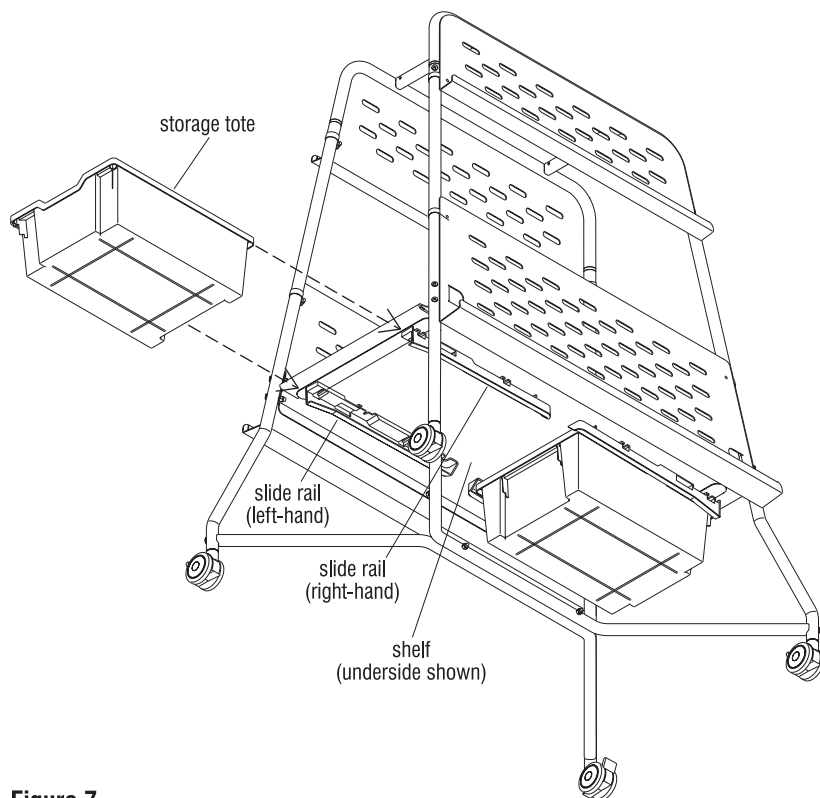

Figure 7
5. Proceed back to install shelf following steps 11 through 16 on page 3. Once installed, storage totes can be installed into the slide rails as illustrated (Figure 7).